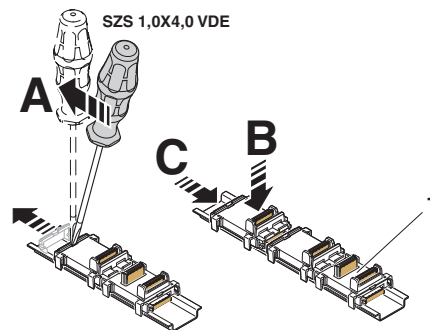

Figure 4-8 Mounting the bus base modules of further AXC F XT ... modules
- To operate the SPLC 1000 on a PLCnext Control AXC F 2152, this requires a special bus base module (1 in Figure 4-8 on page 62).
- For the left alignment of a further module (AXC F XT ...) the cover cap of the previous bus base module must first be removed (A in Figure 4-8 on page 62).
- Remove the cover cap of the bus base module for the AXC F 3152 (A in Figure 4-8).
- Remove the cover cap of the preceding bus base module (A in Figure 4-8).
- Place the bus base modules of the additional AXC F XT ... modules to be aligned on the left on the DIN rail (B in Figure 4-8).
- Push each subsequent bus base module into the connection of the previous bus base module (C in Figure 4-8).